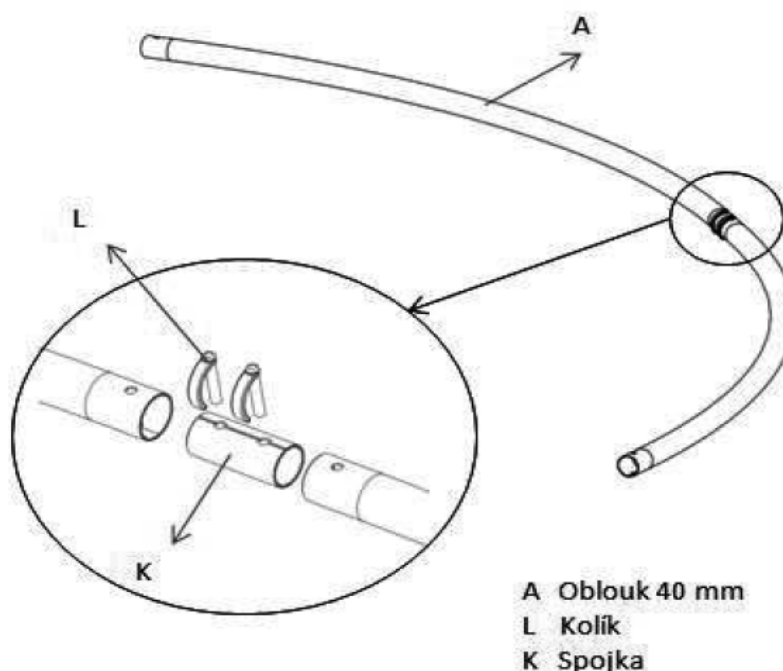
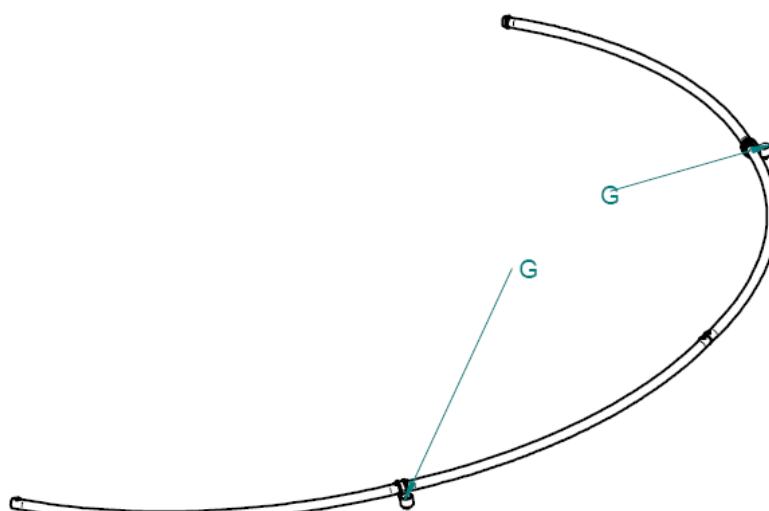

Fig. 1.
Fig. 2.
The roofing canvas edge is provided with a sleeve, in which the arches  $\varnothing 40$  mm (A) should be slid in as follows: Take an arch  $\varnothing 40$  mm (A) and push it in the sleeve. Insert a coupling (K) in the arch end and secure the mutual position of the two parts with a cotter pin (L) put in the corresponding holes. To make the installation of the cotter pins in the holes in the coupling and in the arch you can use the centring pin supplied. . Slid the end of the other arch, placed in the adjoining sleeve, in the coupling and secure the connection with other cotter pin (L). Both cotter pins should be inserted from the same side of the coupling with the pin noses facing the arch centre (see Fig. 1). Using the same steps, assemble **the two** half-arches. When assembling the arch, the plastic parts of the anchor (G) has to be inserted, each between the cotter pins of the connections of the first and second arch segment and of the connection of the third and fourth arch segment of the (horizontal) half-arches (as shown in Fig. 2).
The lower frame of the roofing, after being properly assembled, shall be provided with anchoring elements (G), see Fig. 2.